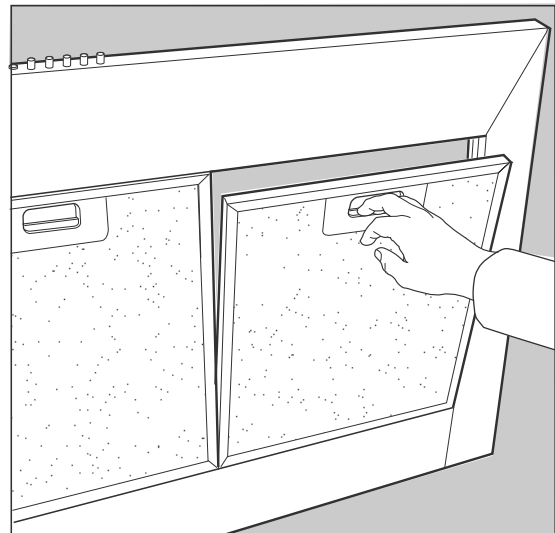

Fig. 3
- Push it towards the back of the unit and then pull it down and out. (**Fig. 3**)